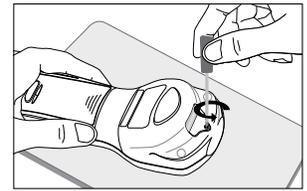

Figure 1
2. Place the meter, display screen down, on a flat surface. Place one hand on the handle of the meter to secure it. With the other hand use a small cross head (Phillips) screwdriver (not included) to remove the single screw on the back of the strip port module. (Fig. 1)